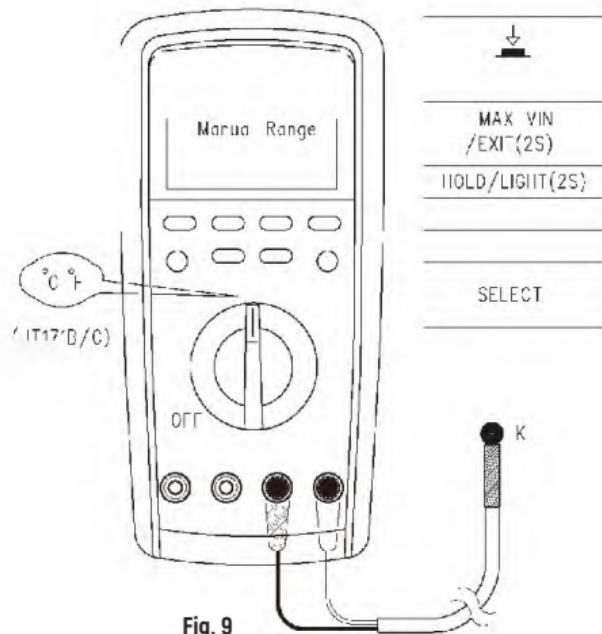

Fig. 9
7. Temperature measurement (see Fig. 9)